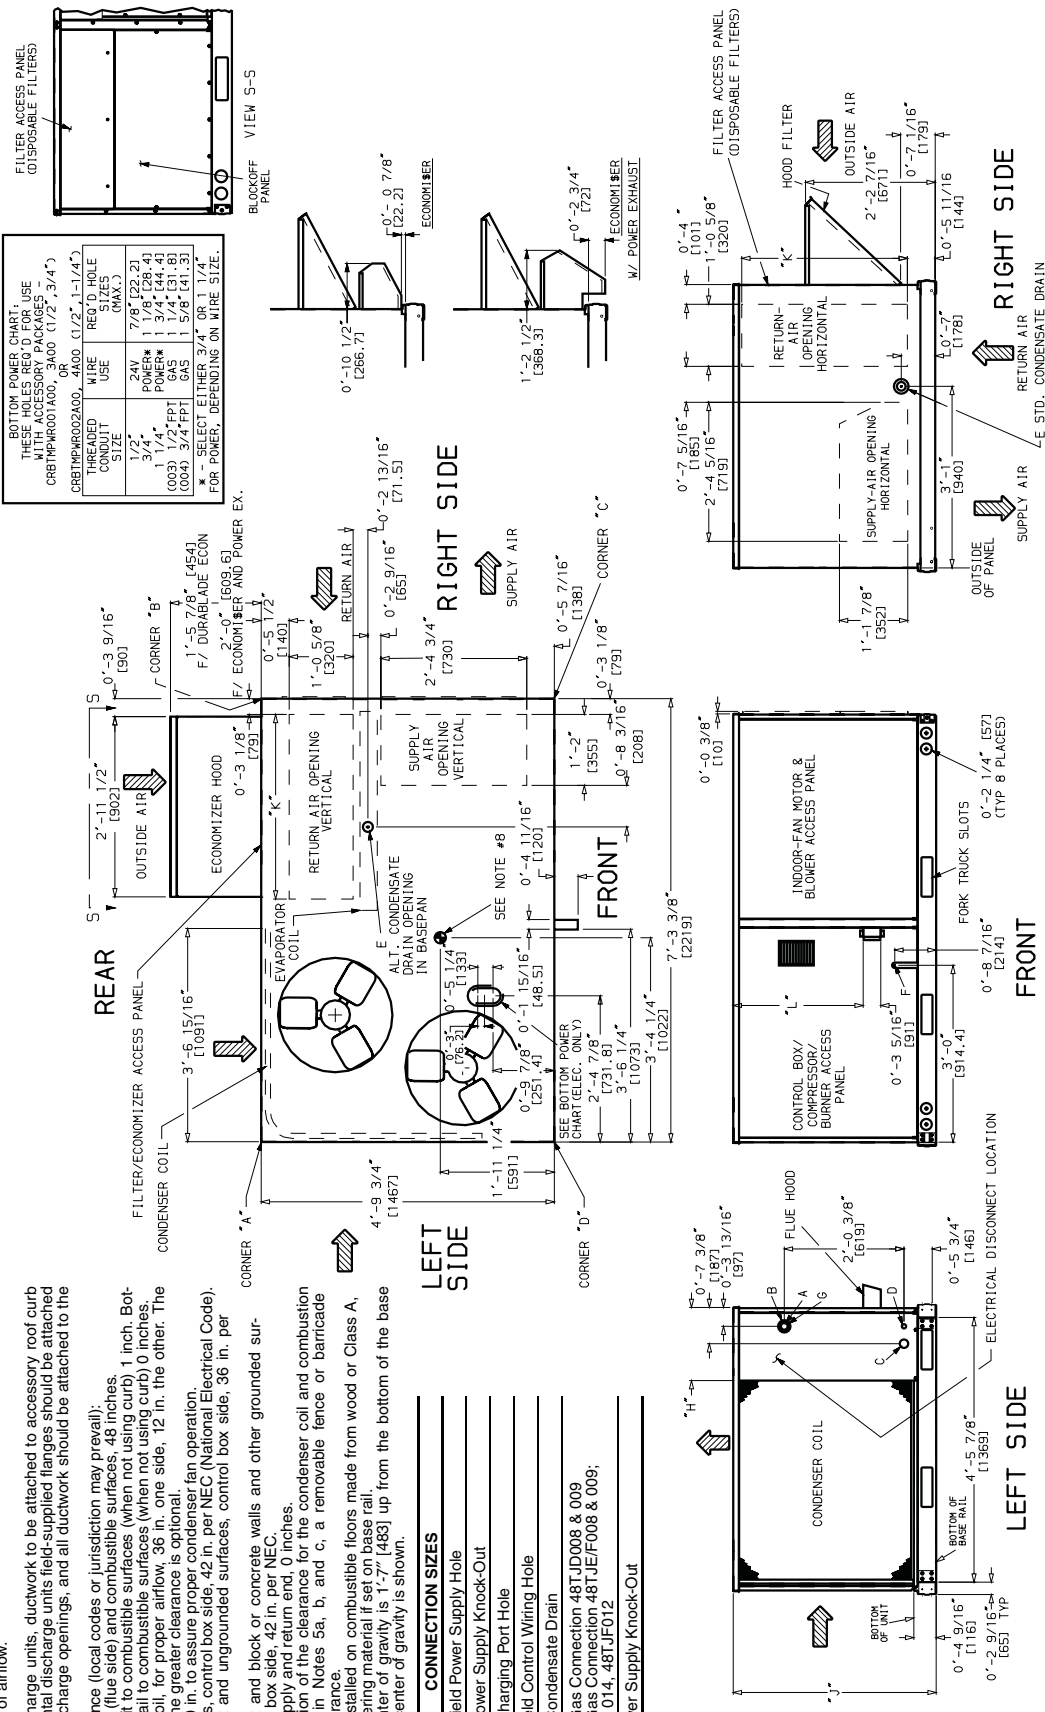
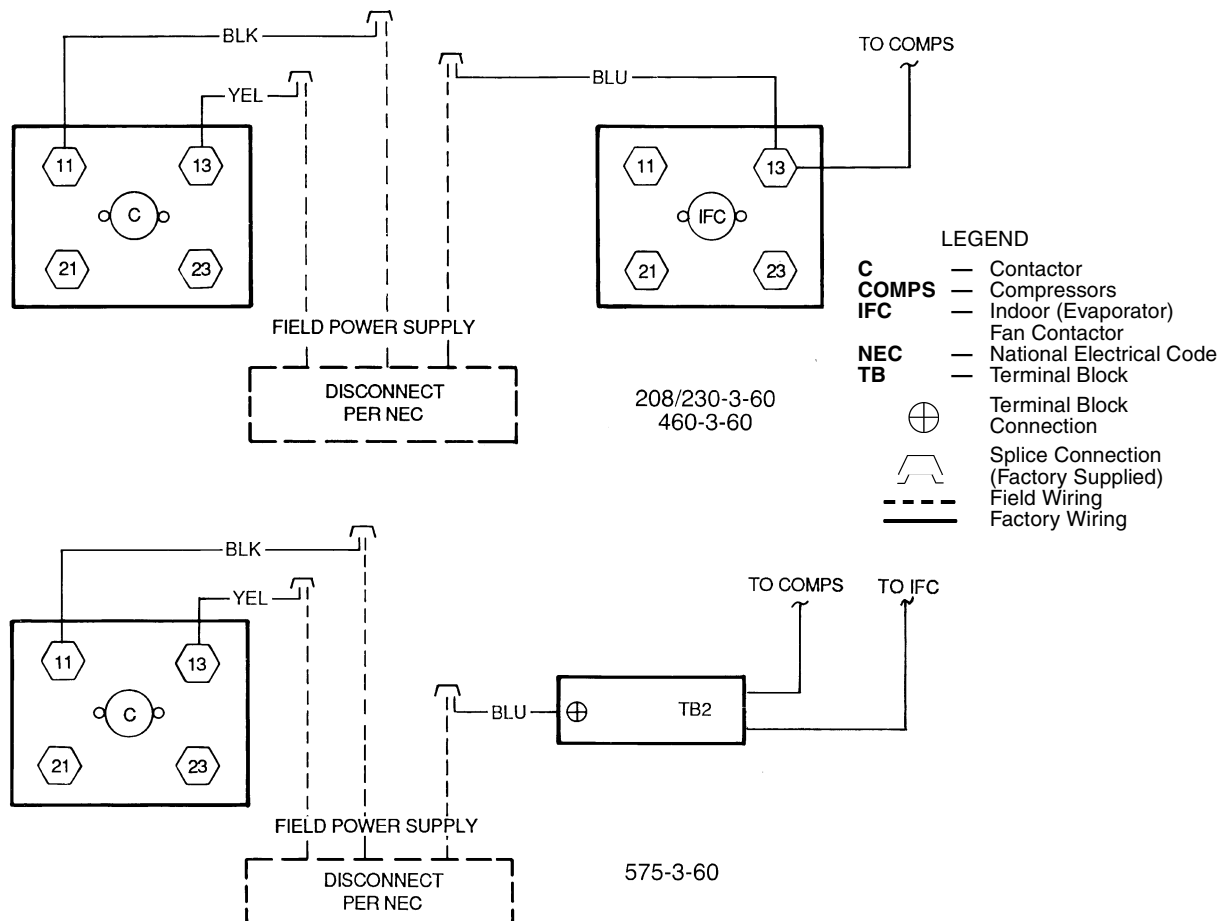

Fig. 7 — Base Unit Dimensions
Fig. 10 — Power Wiring Connections
NOTE: If field-installed thru-the-bottom connections are used, refer to the accessory installation instructions for power wiring and gas connections. Refer to Fig. 7 for drilling holes in basepan.
Install conduit through side panel openings indicated in Fig. 7. Route power lines through connector to terminal connections as shown in Fig. 10.
2. Pass control wires through the hole provided on unit (see connection D in Connection Sizes table in Fig. 7).